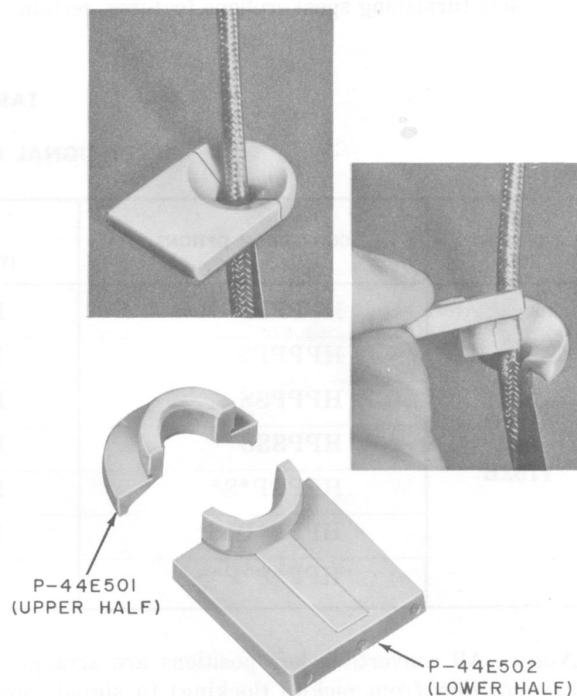

Fig. 1—Removal of Handset Cord Grommet
- (1) Grasp mat retainer frame at top, lift upward and out to release frame from panel of set.
- (2) Remove handset from hook of set.
- (3) Pull out handset cord to allow working slack.
- (4) Remove mat from face of panel.
- (5) Remove grommet from mat as shown in Fig. 1.
- (6) Install grommet in new mat by reversing procedure used in removal.
- (7) Position mat on panel and secure using the mat retainer frame.